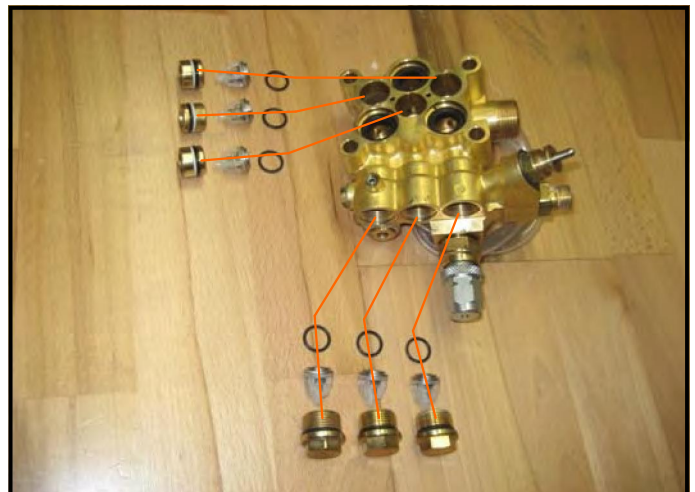

Fig.F.12: Valve Block 1~ Valves
- Inspect valves/seats and replace if Necessary as described in Fig.F.12.